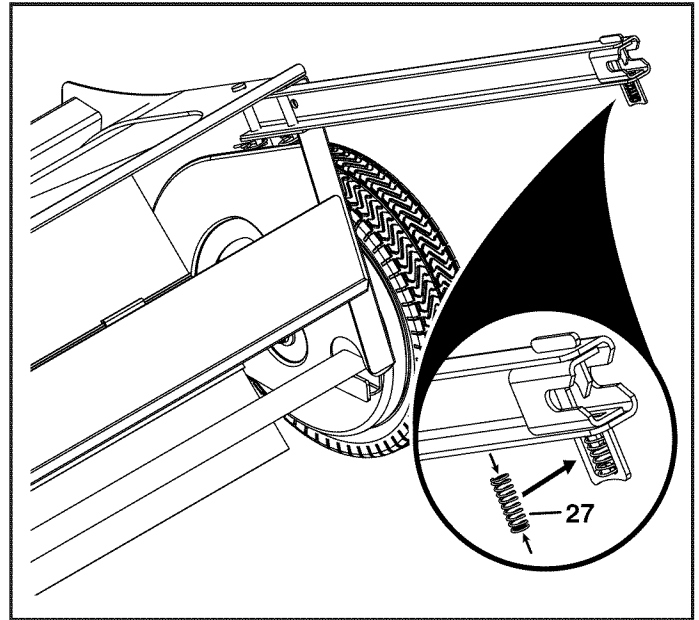

FIGURE 3
STEP 3: (SEE FIGURE 3)
- Install a compression spring (27) into the bottom of each of the pivot rod retainers, securing them to the bag arm channels.